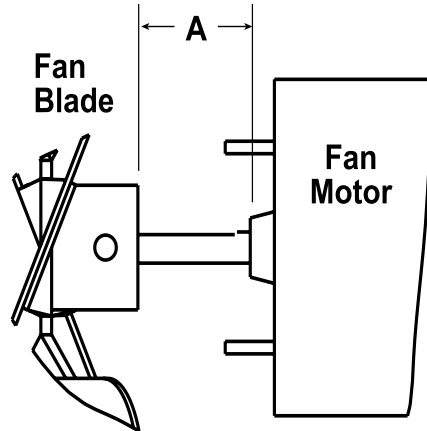

**Figure 30. Ignitor Spark Gap**
- The spark gap (see Figure 30) must be maintained to 1/8 inch.